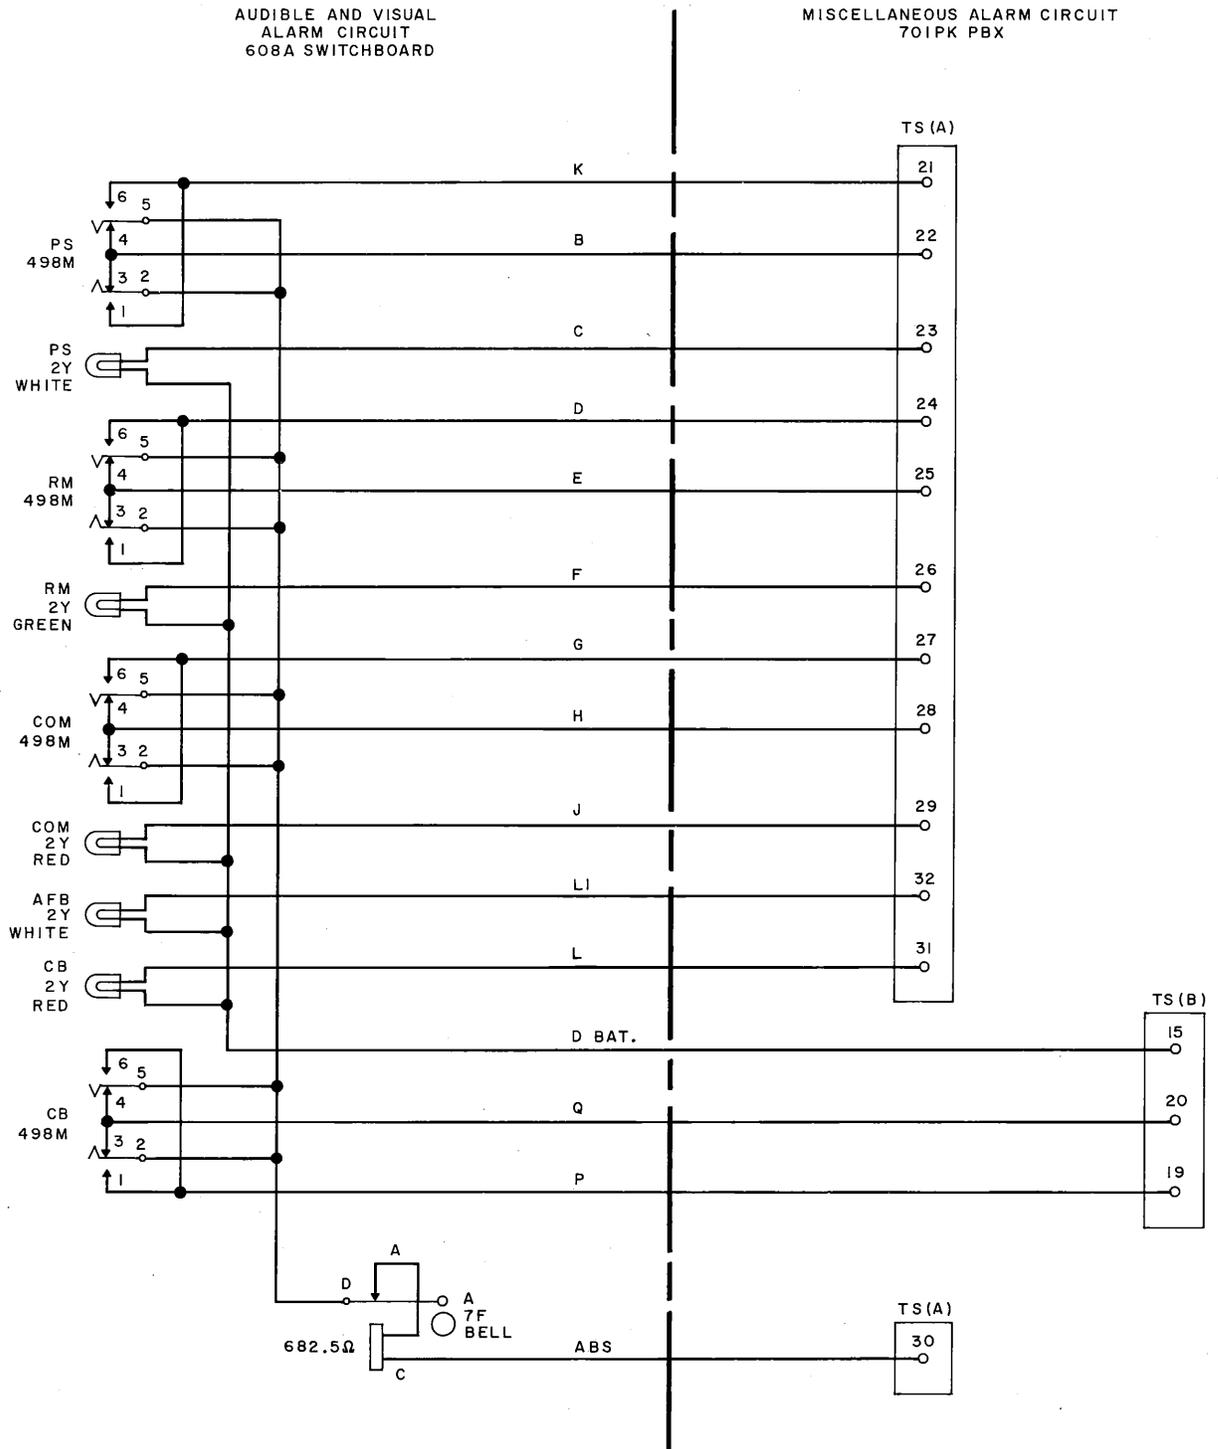

Fig. 4 — Miscellaneous Alarms for 608A Switchboard
2.04 Since the 701PK PBX may be connected to various combinations of 608A or 552D switchboards, traffic register and miscellaneous leads are not covered in the connection tables. See the appropriate circuit drawing and Figure 4 for connection information for miscellaneous leads required for local conditions.